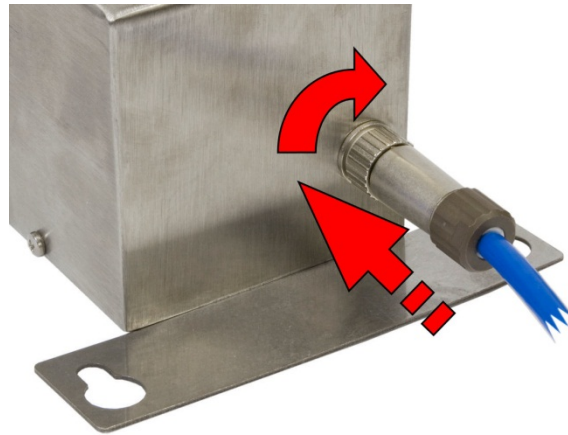

Figure 3-6: Connecting the Battery
battery connector and pressing in while turning clockwise one quarter turn. Refer to Figure 3-6 for the location of the connector.
- Figure 3-6 shows the connection for the 64050625 battery pack. The 30538111 model is similar.